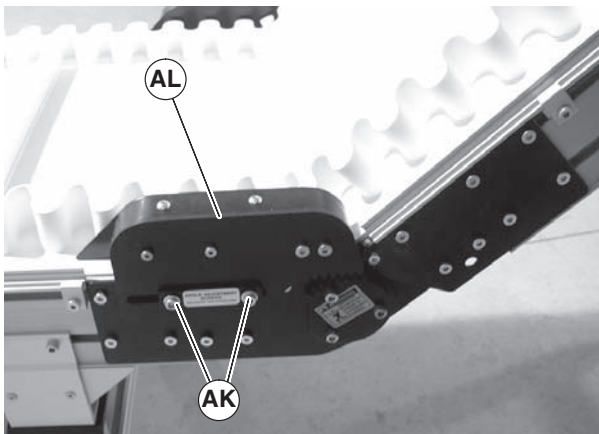
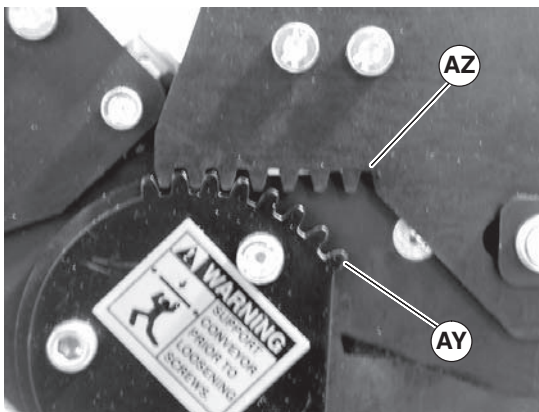

Figure 35
Figure 36
7. If equipped, install lower knuckle return roller assembly (Figure 35, item AL). To properly align teeth, ensure the first gear of the pinion plate (Figure 36, item AY) matches with the first pocket of the rack plate (AZ). Secure with screws (Figure 35, item AK) on both sides of the conveyor.